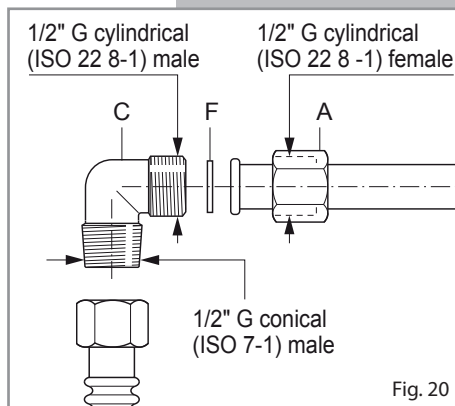
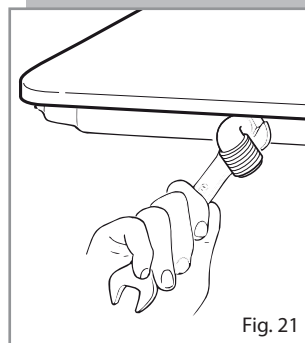

Fig. 20
Fig. 21
The fitting (fig. 20) is made up of:
- The gas inlet union can be turned in the direction required after the elbow fitting "C" and nut "A" connection (figure 20) has been slackened (Fig. 21).
- The gasket "F" (fig. 20) guarantees the seal of the gas connection. It is recommended that it be replaced whenever it shows even the slightest deformation or imperfection.